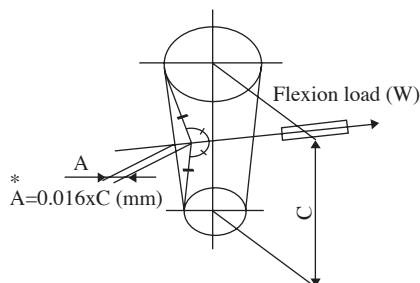

Figure 2 Belt tension
2. Set the tension of one belt when the flexion load is within the range as shown in Figure 2 and Table 2 at the proper flexion. ( $A=0.016 \times C$  mm)